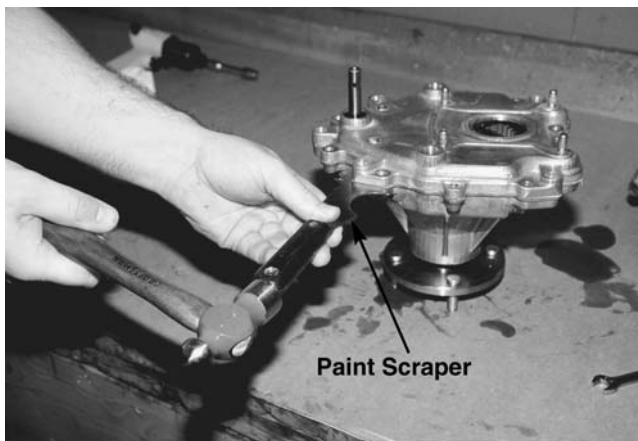

Figure 10-47.
- To separate the housing halves, use a paint scraper or similar tool to pry the halves apart. Work around the housing to evenly release the housing halves. See Figure 10-47.